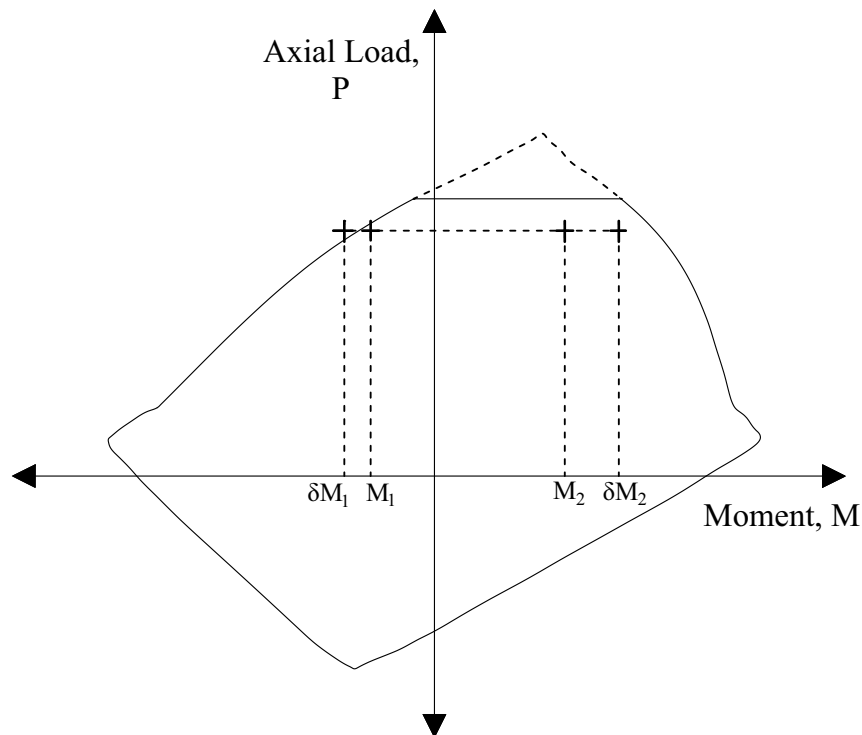

Figure 2-8 Case of unsymmetrical section bent in double curvature (M_1 and M_2 of different sign) with the smaller end moment, M_1 , governing the design
While design codes define moment M_2 as always positive and the sign of moment M_1 depending on single or double curvature bending⁴⁹, spColumn retains actual signs of moments M_1 and M_2 . This revision ensures proper comparison against negative and positive moment capacities of unsymmetrical sections (see Figure 2-8).
2. Moments at column ends, M_1 and M_2 , are calculated, where M_1 is the moment with the smaller absolute value and M_2 is the moment with the larger absolute value. For columns in nonsway frames, the end moments will be equal to the factored applied first order moment. For columns in sway frames, the end moments will be the moments M_1 and M_2 calculated in the procedure for moment magnification at ends of compression member. While design codes define moment M_2 as always positive and the sign of moment M_1 depending on single or double curvature bending⁵⁸, spColumn retains actual signs of moments M_1 and M_2 to ensure proper comparison of resulting magnified moments against negative and positive moment capacities of unsymmetrical sections (see Figure 2-8). This revised interpretation does not affect results of the moment magnification along length procedure because the procedure relies on the M_1/M_2 ratio. spColumn follows the code definition which assumes the ratio to be positive if the member is bent in single curvature and negative if bent in double curvature. If both moments are equal to zero, the program conservatively assumes the ratio of $M_1/M_2=1.0$.
11. The factored magnified moment along the length of a compression member, M_c , is the larger⁷¹ of δM_2 and δM_{min} . The program also calculates moment M_c based on the smaller end moment, M_1 , to account for scenario when M_1 and M_2 are of different sign (double curvature bending). For an unsymmetrical section, the smaller moment, M_1 , may govern the design when the moment capacity on the negative side of the interaction diagram is smaller than the moment capacity on the positive side (see Figure 2-8).